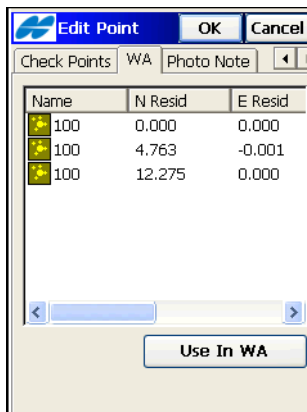

Figure 6-7. Weighted Average
7. When editing a point which has a station available for Weighted averaging, the WA tab will display on the **Edit Point** screen. The WA tab displays coordinate residuals of the check point. Tap the **Use In WA/Exclude from WA** button to control either to use or not to use the station as a weighted average (Figure 6-7).